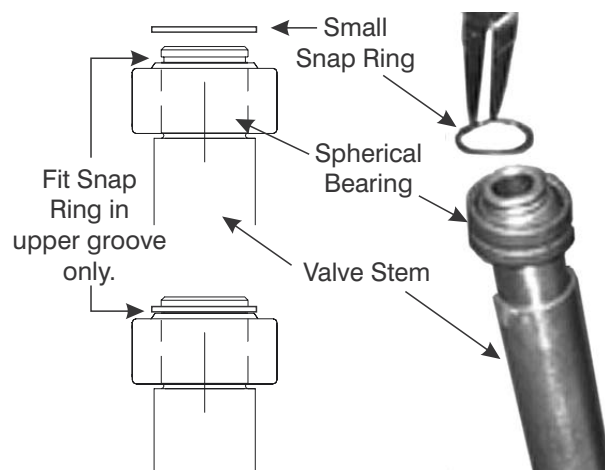

Figure 9-17. Snap Ring secures Spherical Bearing on Valve Stem.
13. The Spherical Bearing is secured to the Valve Stem by the smaller Snap Ring (14), as shown in Figure 9-17.
14. Use needle-nose or retaining ring pliers to expand and fit the Snap Ring (14) into the Valve Stem (5) groove as shown in Figure 9-17.